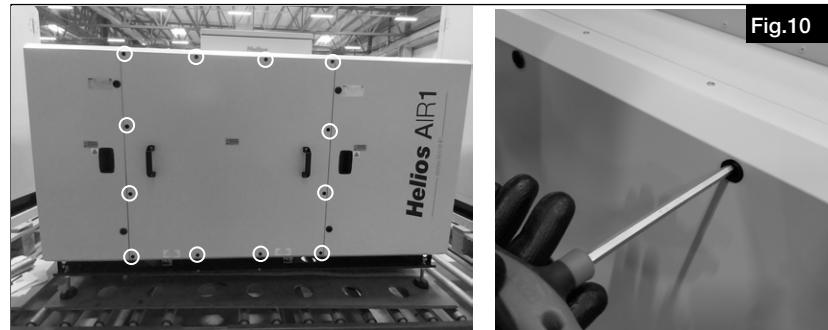

Fig.10
4. Open the service door (see Fig.10).